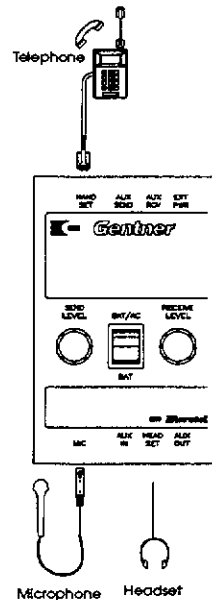

Figure 2
1. Unplug your telephone handset at the cord and plug the modular jack into the HAND SET jack on the back of the Microtel using Figure 2 for reference.